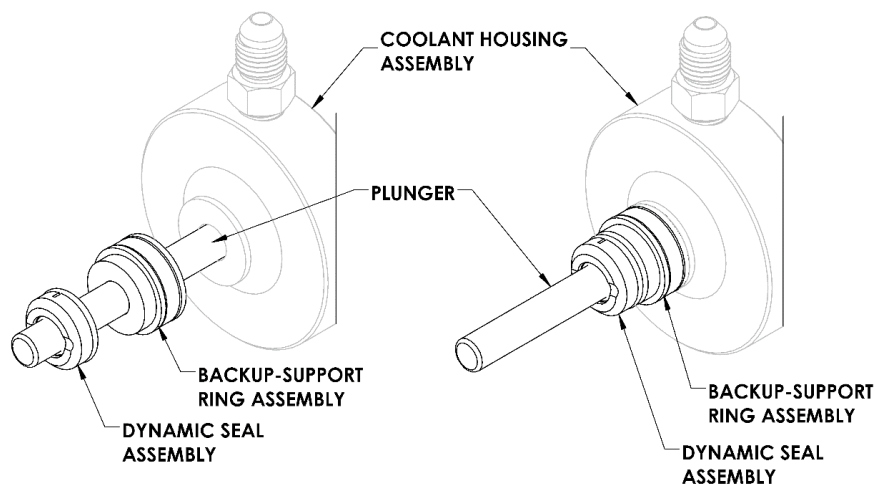

Figure 42 Sliding the Backup-Support Ring Assembly onto the Plungers
6. Slide the backup-support ring assemblies onto the plungers with the black bushing inside the backup-support rings toward the coolant housing assembly. (See **Figure 42** below.) Push the backup-support ring assembly down the plunger until it rests against the coolant housing assembly.